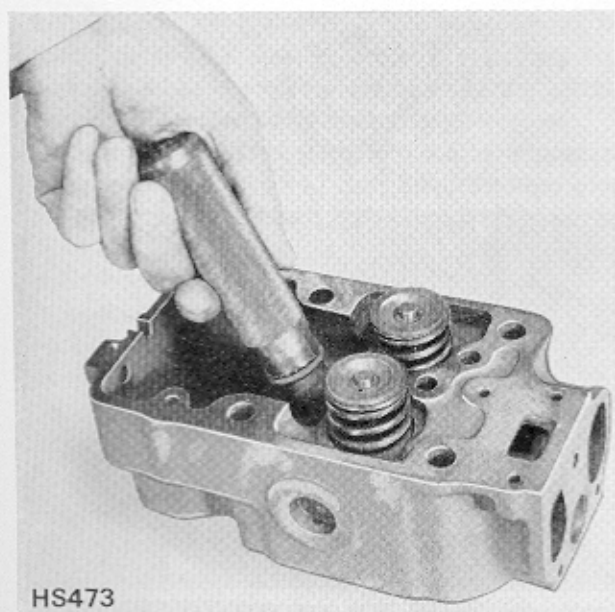

Fig. 143a Fitting Injector Sleeve
- (b) Fit new sleeve using fitting tool (Fig. 143a).